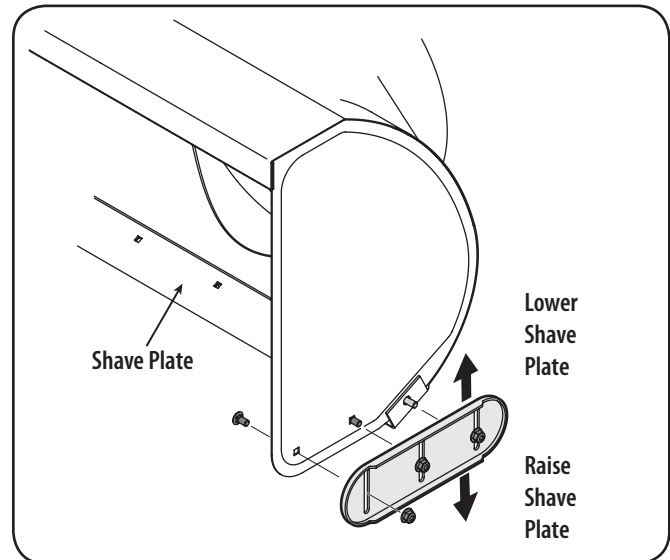

Figure 3-9
1. Adjust skid shoes by loosening the six (three on each side) hex nuts, washers, and carriage bolts securing the skid shoes to the auger housing. Refer to Figure 3-9.